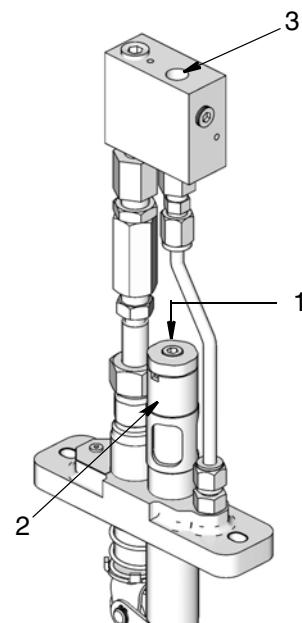

FIG. 7
## Alarm Pump Models (FIG. 7)
2. Install pressure switch into sensor output (3) (FIG. 7).